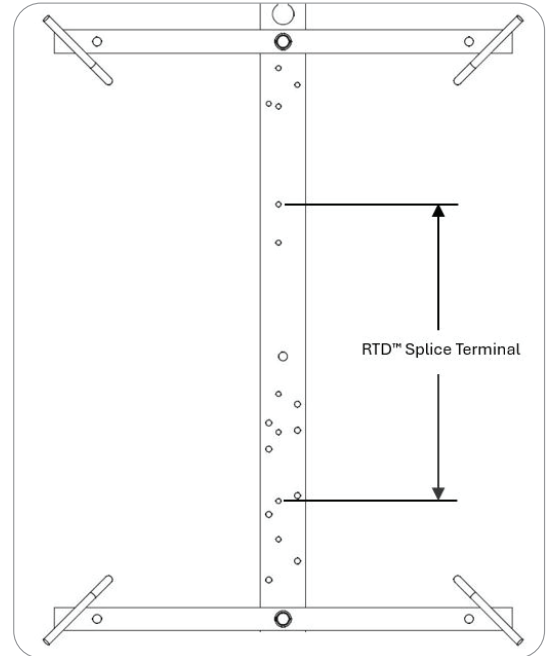

Figure 75
2. Align the brackets with the holes shown in Figure 75 and attach to the coil bracket using the hardware in kit, AFL No. **HW150510**.